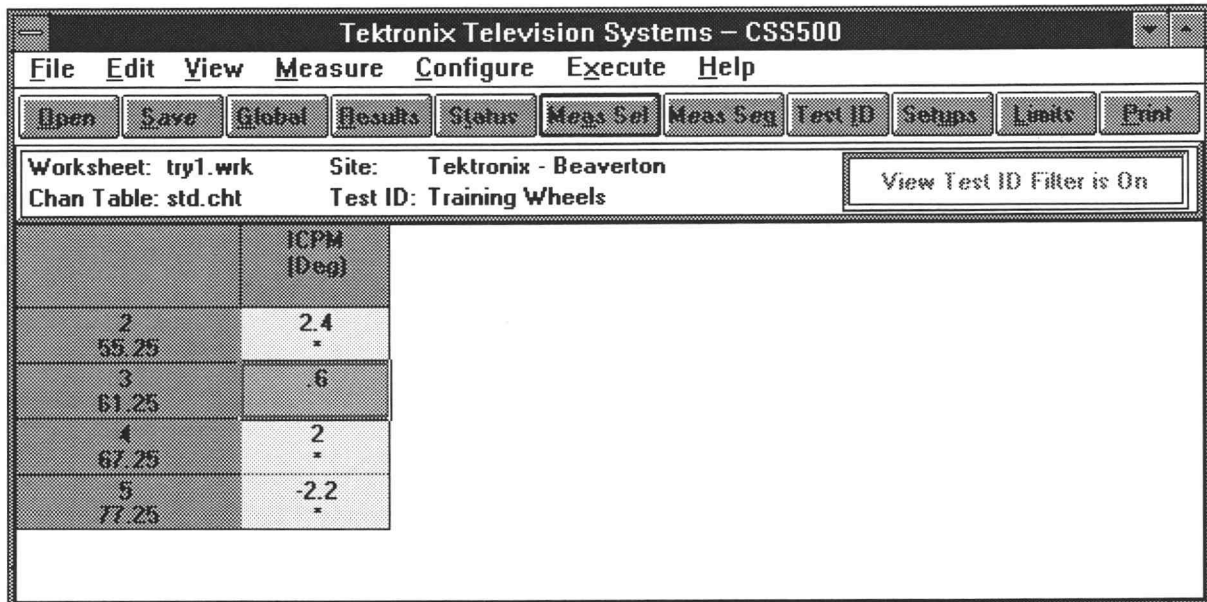

Figure 6-18. The results of turning on the Test ID Results filter.
6. From the View menu, choose Test ID Results. The results should be similar to Figure 6-18.